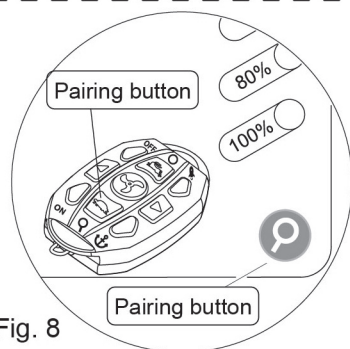

Fig. 8
Press and hold  below the battery status lights on the motor (Fig. 8) and  (also the Slower button) on the remote at the same time for three (3) seconds or until you hear 3 beeps indicating that connection has been made and the remote and motor are paired. Release fingers from both buttons.